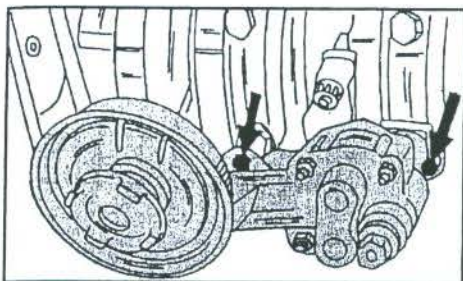

Fig. 9.28 - The oil pump at the bottom of the crankcase. The arrows show two of the bolts.
The lubrication system is a pressure-feed system. A gear-type oil pump, consisting of an internal and an external gearwheel, is driven via the crankshaft. Fig. 9.28 shows where the pump is located at the bottom of the crankcase. The oil pump cannot be overhauled and must be replaced in case of damage.
- The oil pump is now visible as shown in Fig. 9.28. Remove the two pump bolts from the bottom of the crankcase and withdraw the pump.